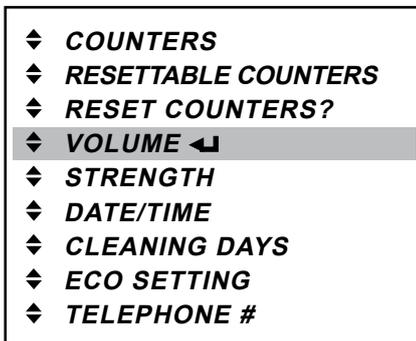

Fig. 57
1. Press the enter button ◀ to access the «VOLUME» menu (fig. 57).